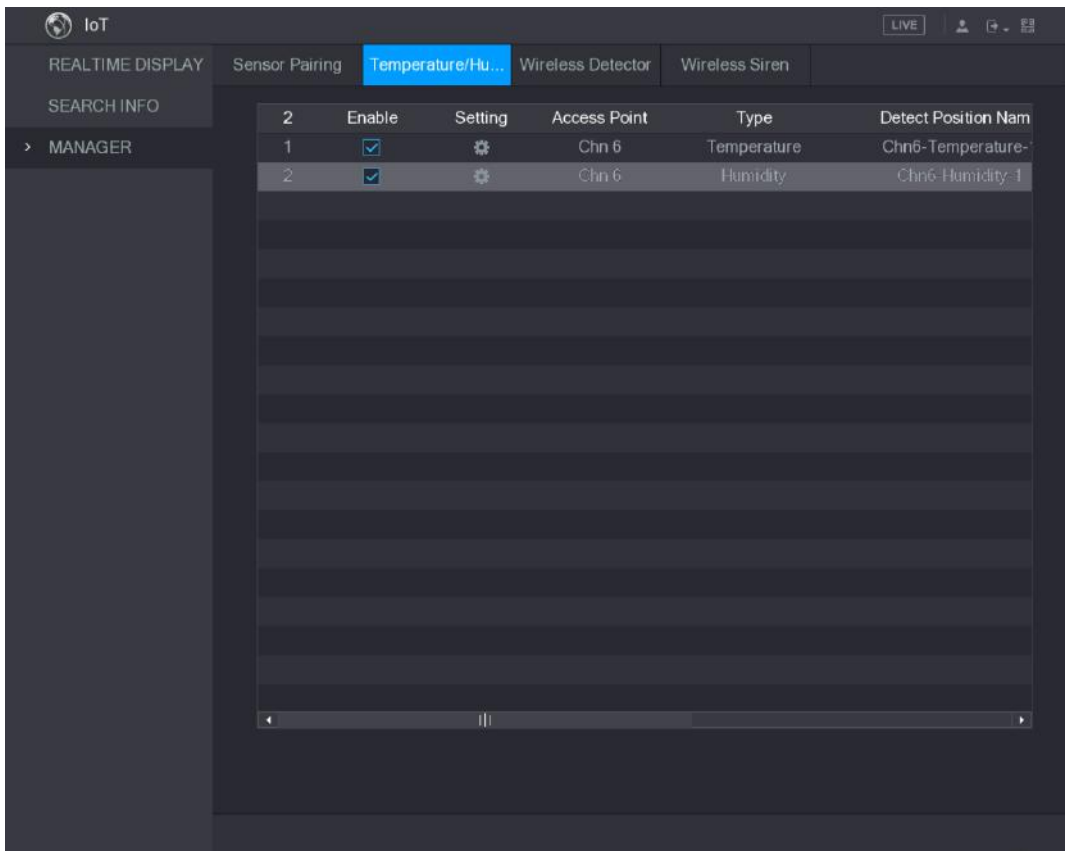

Figure 5-172
Step 2 Select the **Enable** check boxes to enable IoT function. See Figure 5-172.